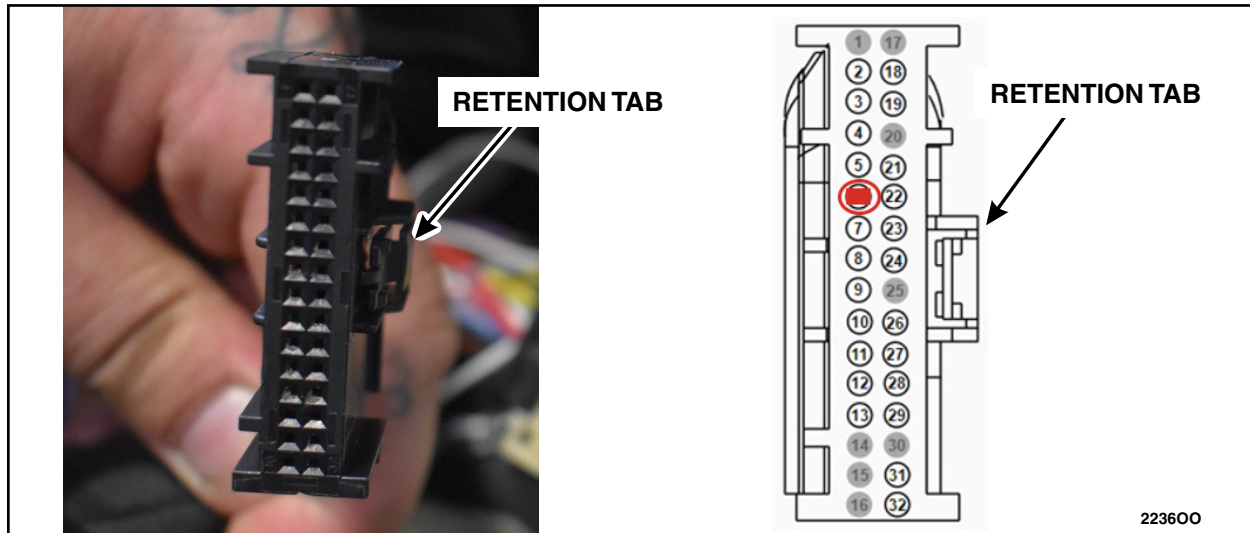

FIGURE 46
55. In connector C1035C identify cavity 6 which contains a white-blue wire. Ensure that the cavities in the connector are being counted and not wires. Do NOT remove wire from connector. See Figure 46.
NOTE: Ensure that the direction of the retention tab matches to Figure 46.